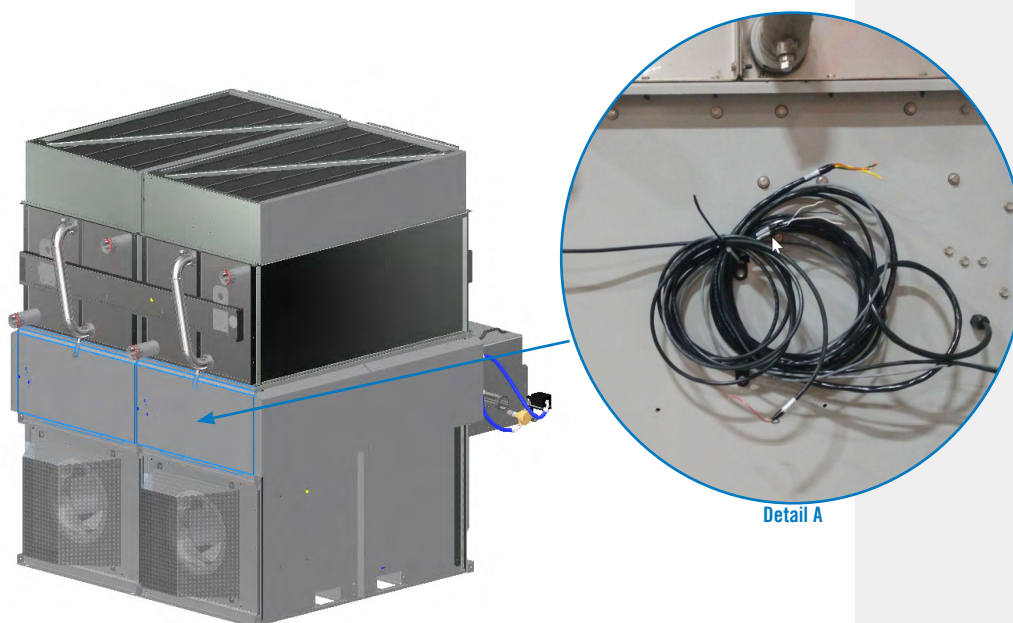
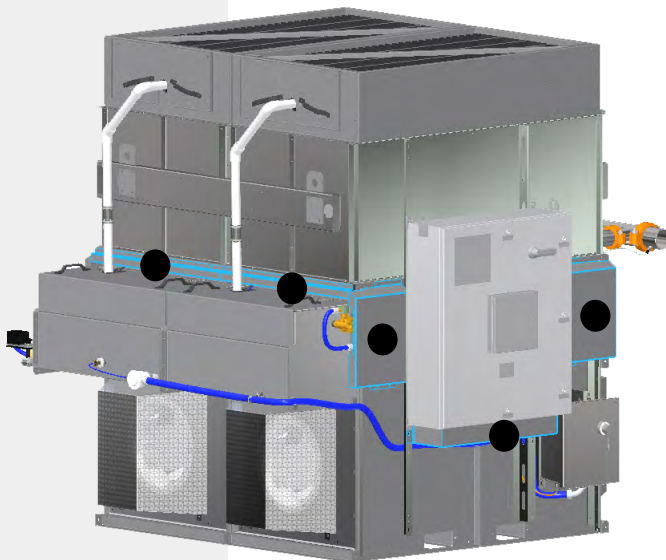
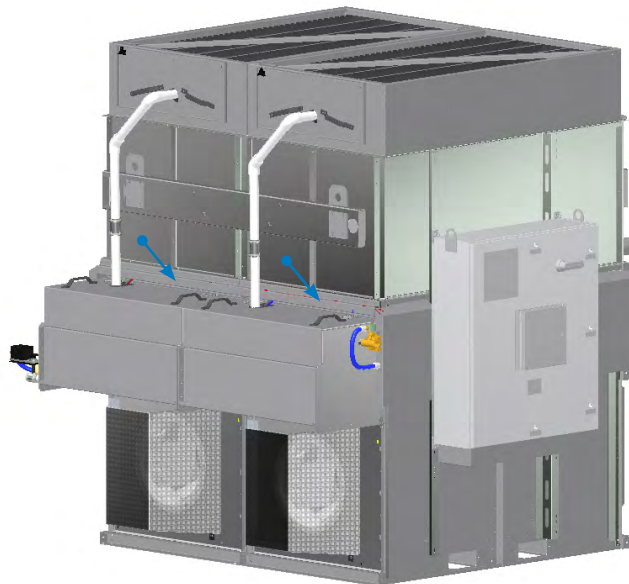

Figure 11. Location of Fan Wiring
Figure 14. Location of Cover Panels Around the iPilot® Control System Panel (Optional Basin Heater Shown)
Figure 19. Install Wire Cover
1. Remove the back cover panel located on the opposite side of water basin (Face D). Find the fan wire stored under cover panel for each module. See **Figure 11**.
1. Remove the rest of cover panels around control panel and above spray water basin. Keep the hardware for reinstallation of panels. See **Figure 14**.
10. Install the wire cover panel at the top of the spray water basin. See **Figure 19**. Install the cover panel at the back and side. See **Figure 11** and **12** on **pages 13** and **14**. Finally, install the cover panels around iPilot® Control System panel, see **Figure 14** on **page 14**.